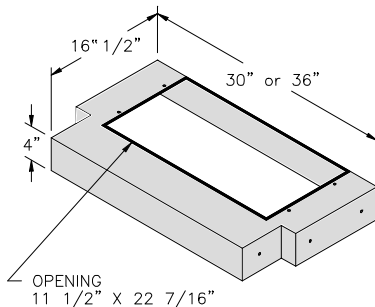

Figure 2
3. T-shaped Metal Liner, Figure 2.